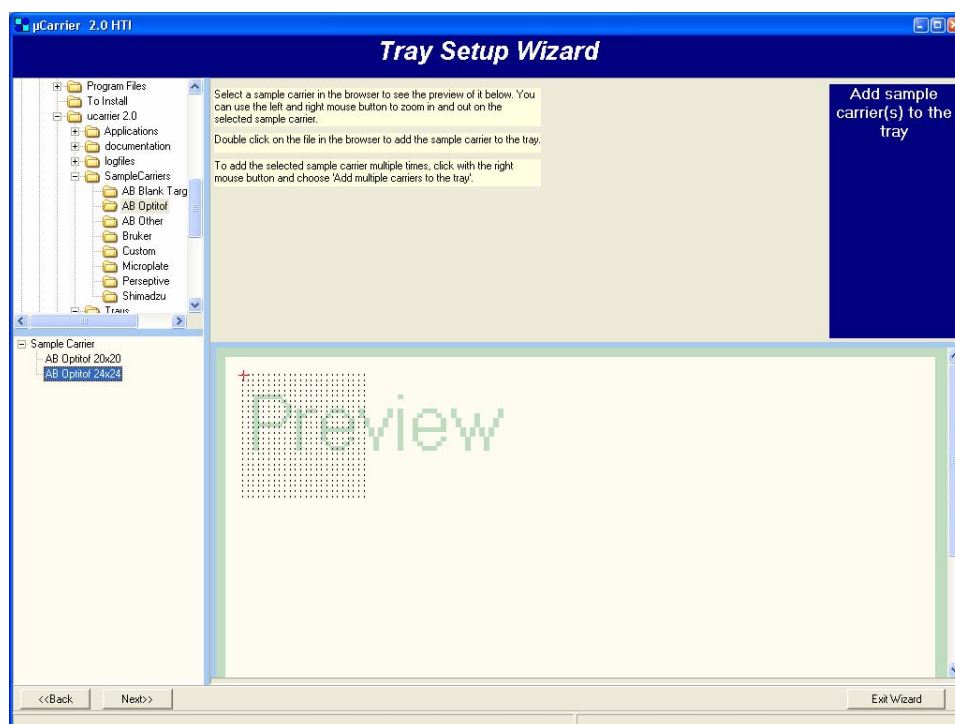

FIGURE 2-30 Tray Setup Wizard – Selecting a Sample Carrier
- d) In the first step, select the sample carrier(s) you want to use from the available sample carriers (FIGURE 2-30). If you want to place only one carrier choose the **Next** button and continue with step f).